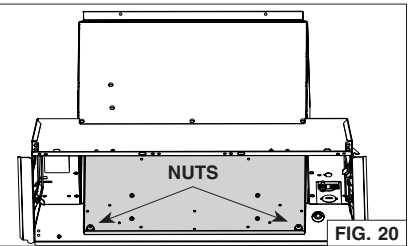

FIG. 20
8. From inside the unit, detach the back plate (grey part in FIG. 20) by removing its both retaining nuts using 3/8" diameter socket. Set aside the nuts and plate.